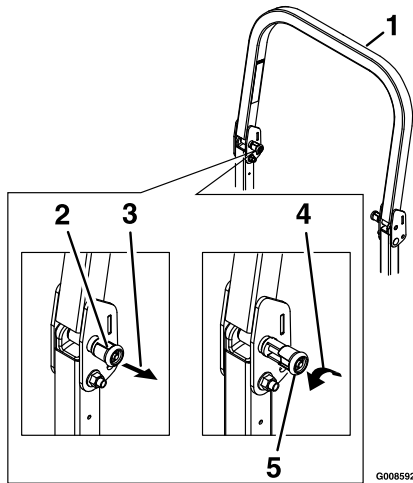

Figure 16
1. The knob must be completely latched with the tabs interlocking as shown in Figure 16 to lock the roll bar in the raised, operate position.